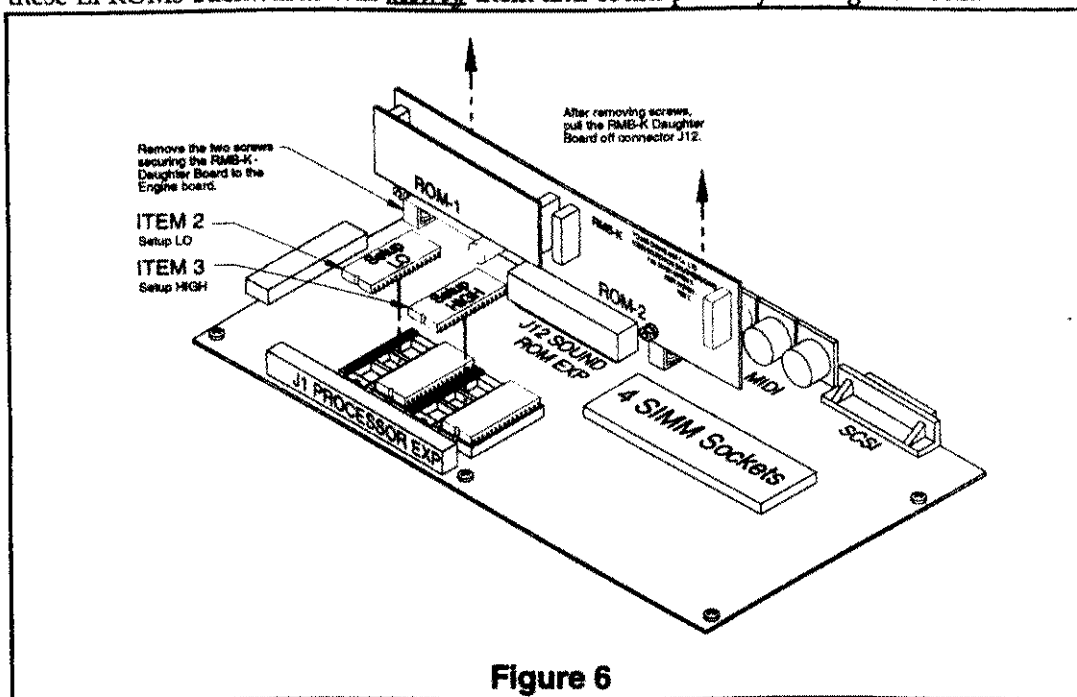

Figure 6
4. See Figure 6. Take Item 2, Setup **LO** EPROM, and place it into the left-most socket. Be sure that the notch in the EPROM indicating pin one is facing J1. Gently push the EPROM into the socket, making sure that all pins are inserted correctly. Be careful not to bend any pins.
5. See Figure 6. Take Item 3, Setup **HIGH** EPROM, and place it into the second socket from the right. Be sure that the notch in the EPROM indicating pin one is facing J1. Gently push the EPROM into the socket, making sure that all pins are inserted correctly. Be careful not to bend any pins.
6. See Figure 6. Looking at the Engine PCB with the MIDI & SCSI connectors facing away from you, locate J12, the 48 pin connector labeled "SOUND ROM EXP". It is to the left of the SIMM sockets and above the software and setup EPROMs. Currently installed in this connector is the RMB-K Daughter Board with one of the ROM Boards.
7. See Figure 6. Remove the two Engine Board mounting screws which go through the RMB-K Daughter Board mounting brackets. Then carefully disconnect the RMB-K Daughter board from connector J12.